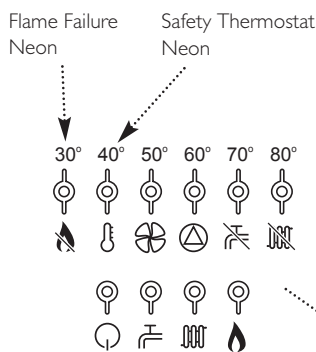

Fig. 11
1. The red flame failure neon () will illuminate in the event of the burner failing to light, when incomplete lighting of the burner occurs or blockage of the condensate drain (Fig. 11).
1. Your Baxi Combi 105 HE is fitted with additional safety devices, which shut down the boiler in the event of the system, the boiler or the flue overheating. The safety thermostat neon () will light in this instance (Fig. 11).